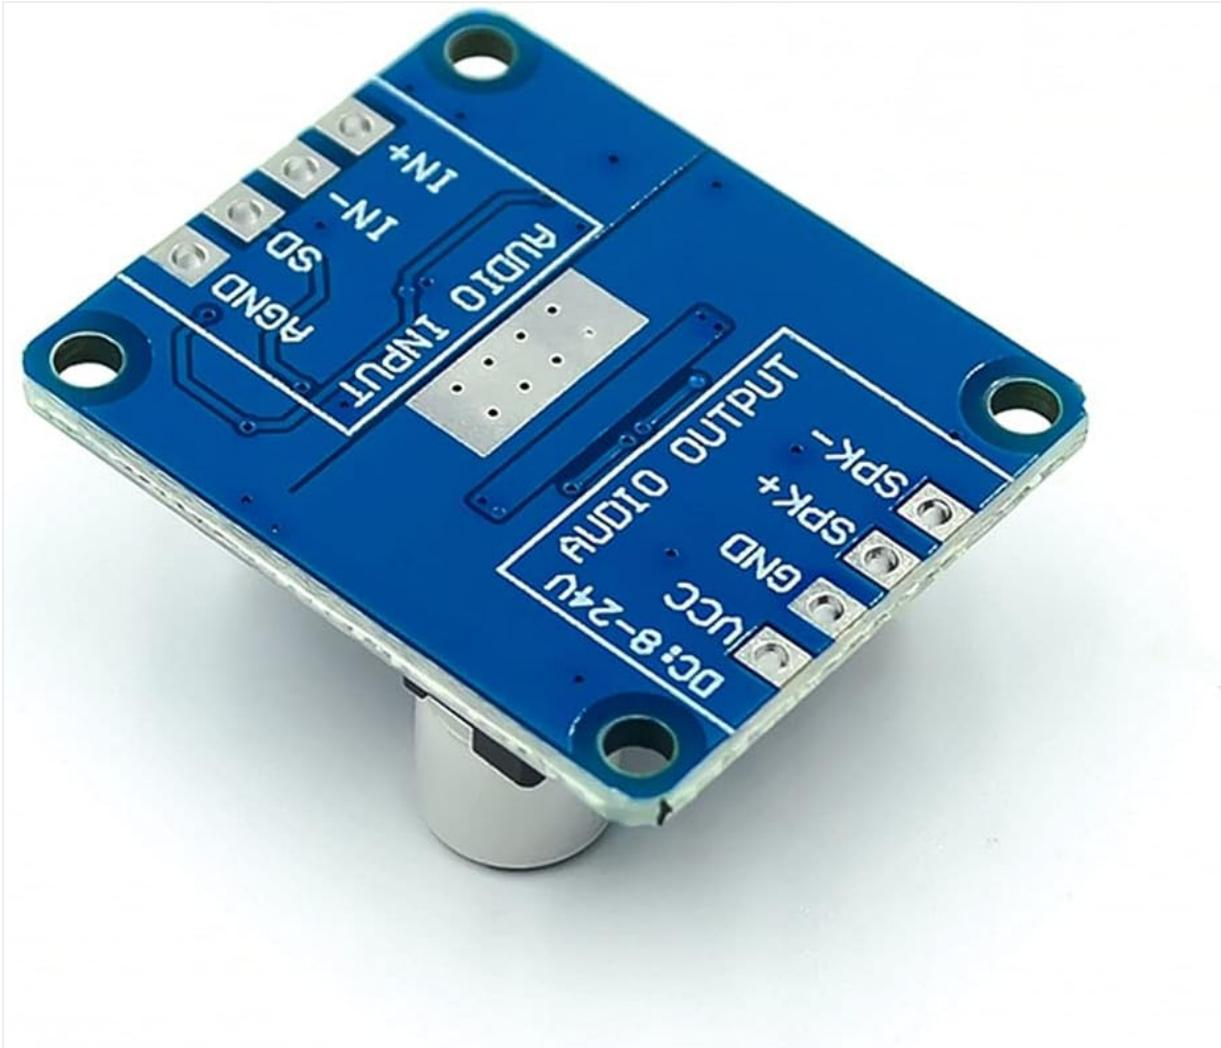

Figure 4: Bottom view of the amplifier module showing labeled connection points for power, audio input, and speaker output.
- Identify the **VCC** and **GND** terminals on the module (refer to Figure 4).
- Locate the **IN+** and **IN-** terminals for audio input (refer to Figure 4).
- Identify the **SPK+** and **SPK-** terminals for speaker output (refer to Figure 4).